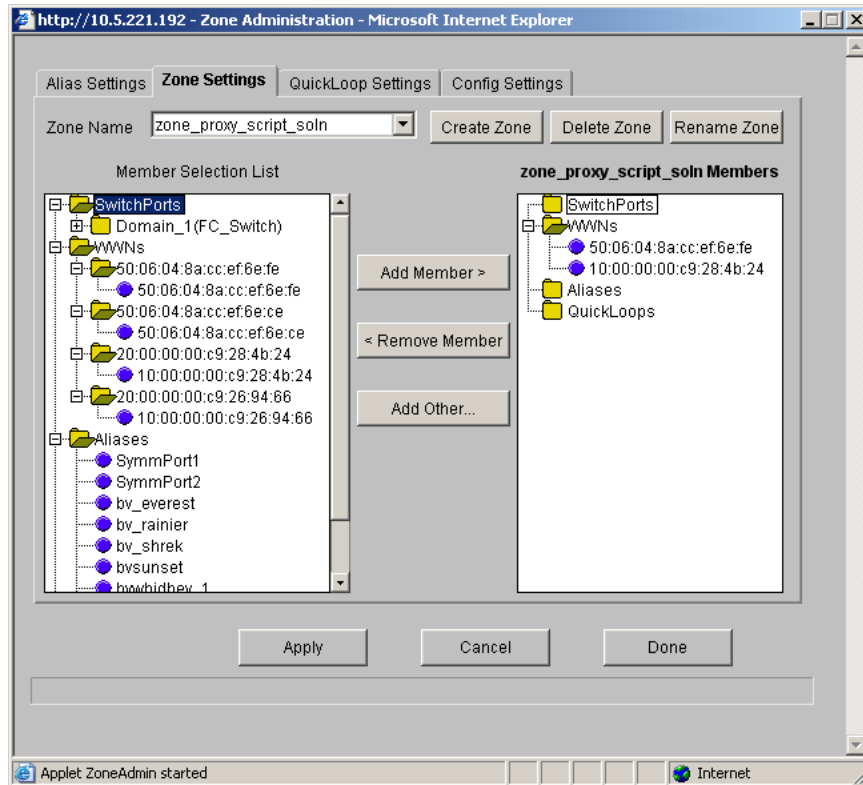

Figure 3 – Switch Configuration - II
- Click on the “Zone Admin” button to bring up the Zone administrator screen. This will prompt for user name and password. Enter user name and password and click on “Zone Settings” tab to create a fabric using WWN of host HBA and Storage Array, as shown in Figure 3.
Figure 3 has two Fiber Adapters of EMC Symmetrix with WWN 50:06:04:8a:cc:ef:6e:fe and 50:06:04:8a:cc:ef:6e:ce; each WWN contains six disks with BCVs. So, while configuring with Symmetrix, storage administrators will provide WWN of the Fiber adapter port, director e.g. FA15, fiber port number e.g. D1 or D0, disk numbers e.g. 1C3, 1C4, and so on, and number of disks.